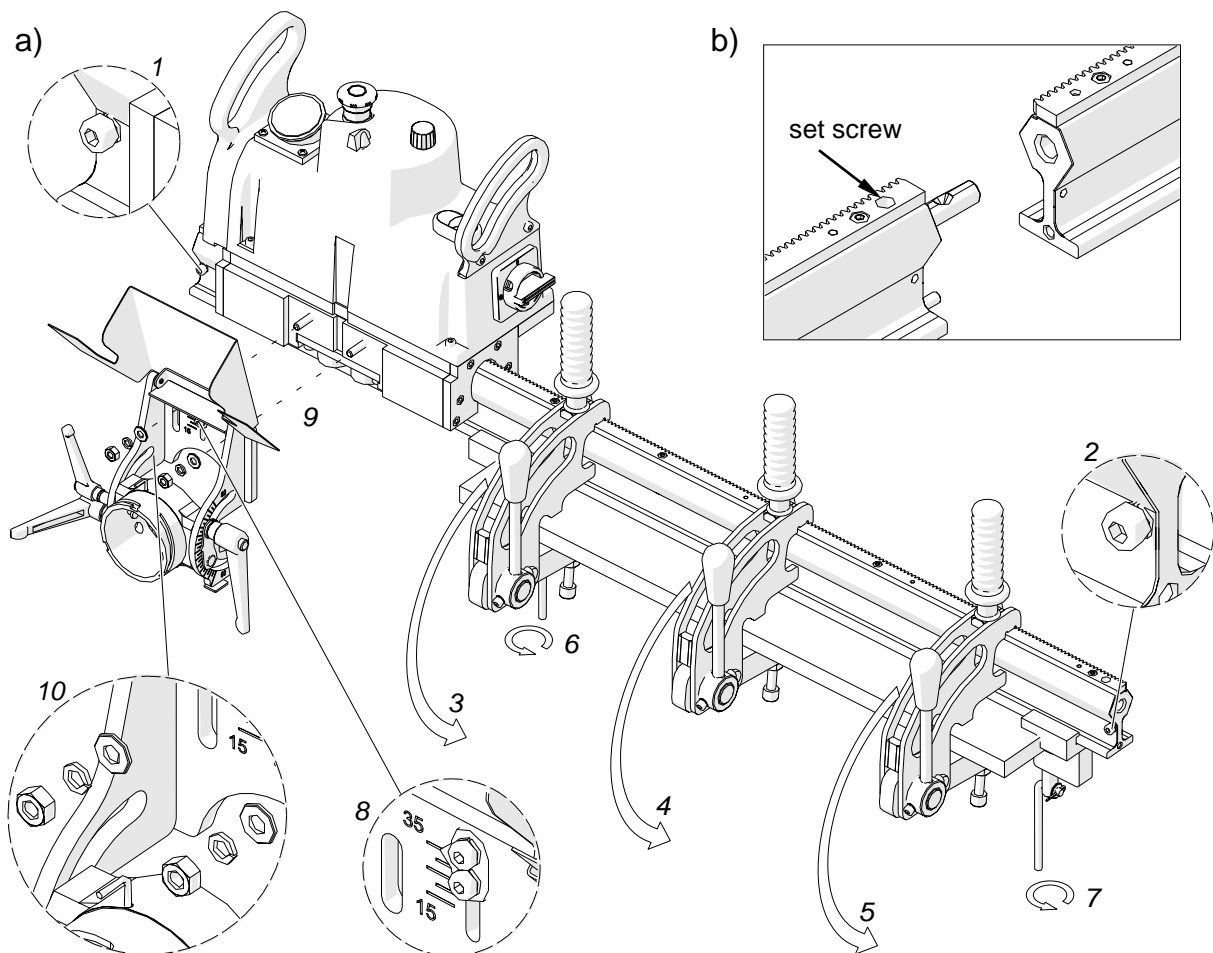

Figure 3. Placing machine on plate (a); mounting additional guide segments (b)
If the plate is to be machined at the negative angle (from the bottom), loosen two milling unit support screws using 4 mm hex wrench, and set the indicator to the value of the plate thickness (8). Position the milling unit support on the screws (9), place the washers under the nuts (10) in order shown in Figure 3, and tighten the nuts using 13 mm flat wrench.